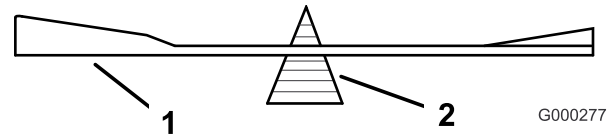
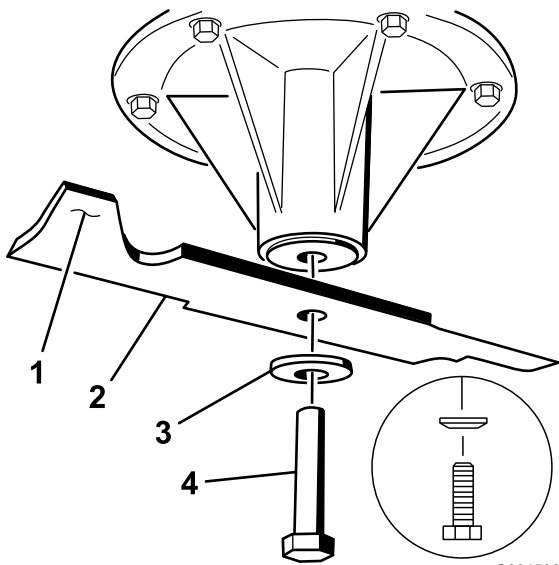

Figure 58
Figure 59
2. Remove the blade bolt, spring disk and blade from the spindle shaft (Figure 59).
2. Check the balance of the blade by putting it on a blade balancer (Figure 58). If the blade stays in a horizontal position, the blade is balanced and can be used. If the blade is not balanced, file some metal off the end of the sail area only (Figure 59). Repeat this procedure until the blade is balanced.
1. Install the blade onto the spindle shaft (Figure 59).
2. Install the spring disk and blade bolt. The spring disk cone must be installed toward the bolt head (Figure 59). Torque the blade bolt to 85-110 ft-lb (115-150 N•m).